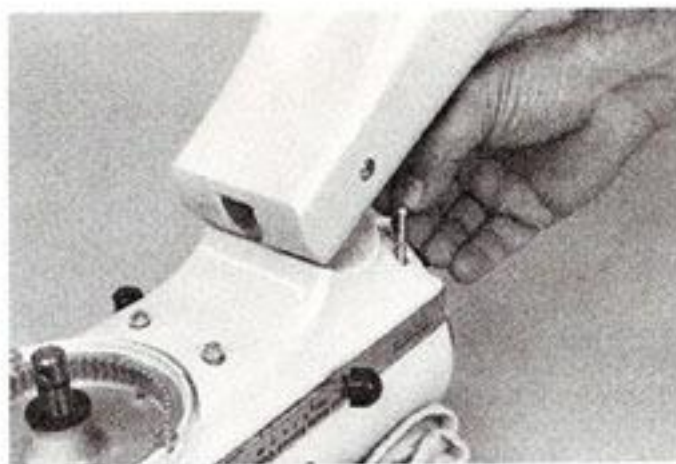
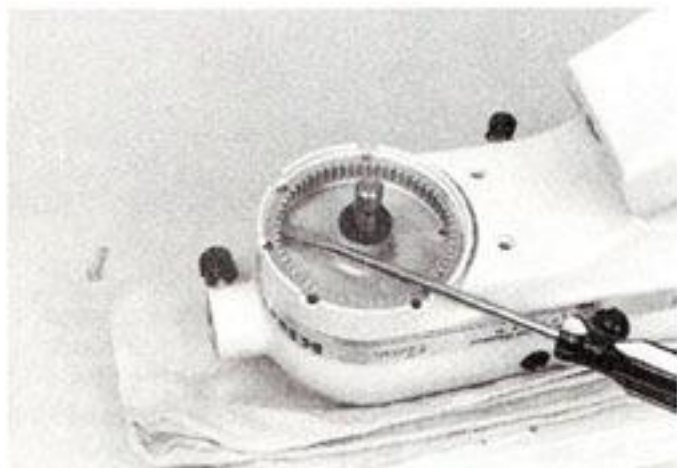

Fig. 65
Fig. 63
P. If necessary to replace internal gear, pry gear from gear case cover (Fig. 63). When installing new gear, align notches with holes in gear case and tap evenly into place using non-metallic mallet. Turn the five special screws (Fig. 64) evenly and tightly (18-20 in. lbs.). Then screw in the four #10-24 x 1" fillister head screws and turn them in evenly and tightly (Fig. 65).